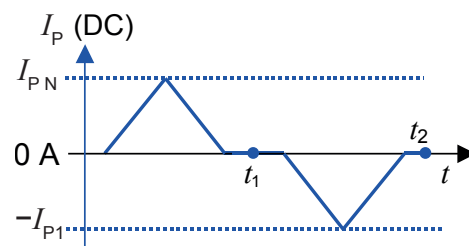

Figure 15: Current cycle used to measure magnetic and electrical offset (transducer supplied)
- or in a known magnetization state, like in the current cycle shown in figure 15.
Using the current cycle shown in figure 15, the electrical offset is: